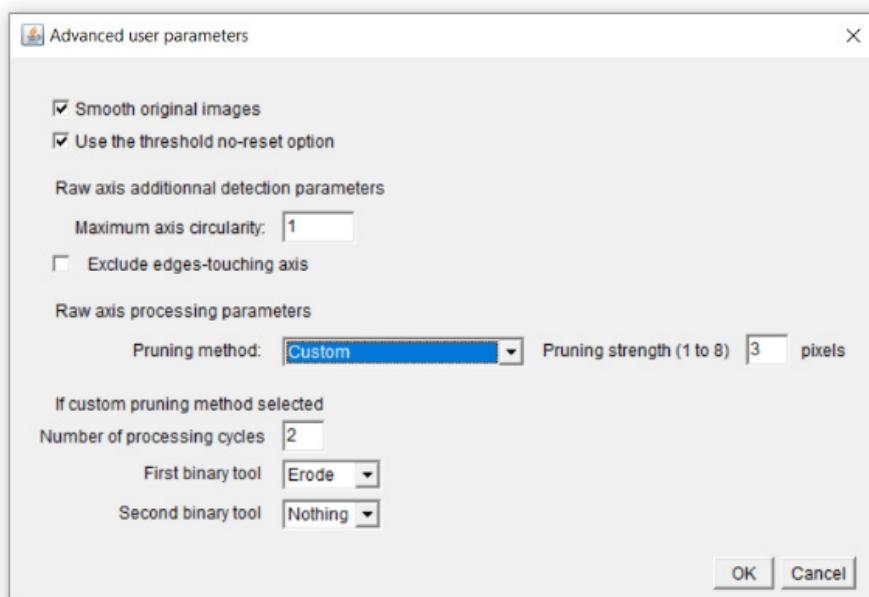

Figure 5.3. The Advanced user parameters menu
STEP 2. Set the ROI that will be used for further measurements. If the “user-defined ROI” is selected, then the companion .roi file generated during the stage-cropping step will be used. If this file is not found, some error message is displayed. The other possibility is to use an intensity threshold. The macro refers to “nucleus” threshold as most of the time, the channel used for the threshold is based on some nucleus staining. This can be however used for any other staining. If using this “nucleus threshold” mode, set the channel used for threshold (the first channel is channel 1), then select the adequate threshold algorithm. The list can be expanded to all available ImageJ built-in automatic thresholds by clicking on “Set measurements parameters” and tick the display the full list of threshold methods options (figure 5.3). The user-defined or nucleus ROIs is referred as “reference ROI” below.
OPTIONAL STEP B. Advanced user options can be used to get accurate axis detection. This is very useful for either noisy images and/or superresolution images. Whenever the “Use advanced user option” is chosen, the “Advanced user parameters” window will pop up at **STEP 7** (figure 5.3).